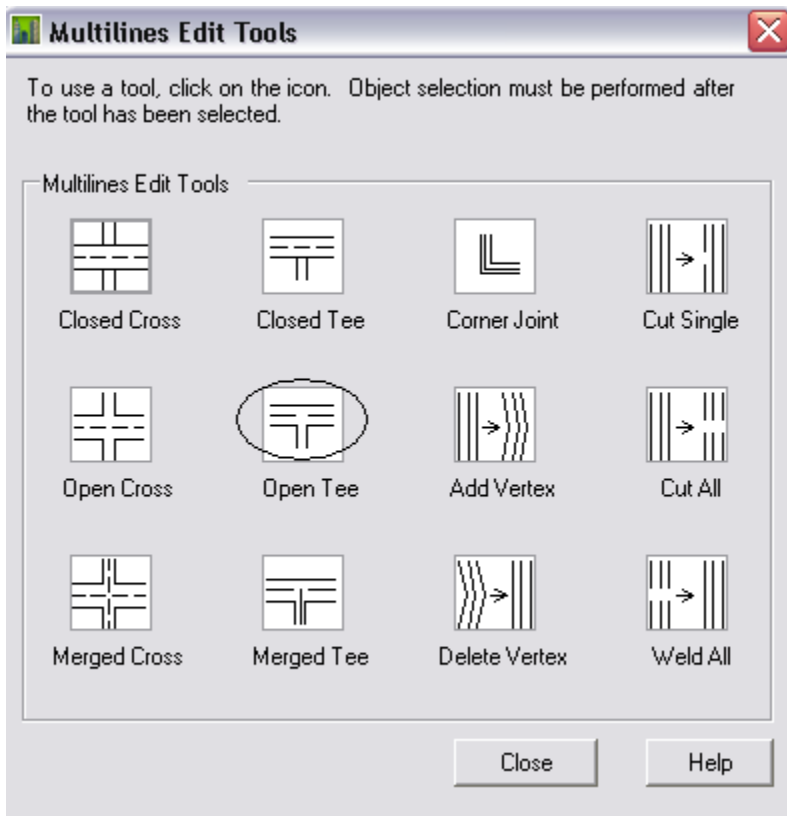

Figure 10
8. Select the “Open Tee” option. Fig 10.